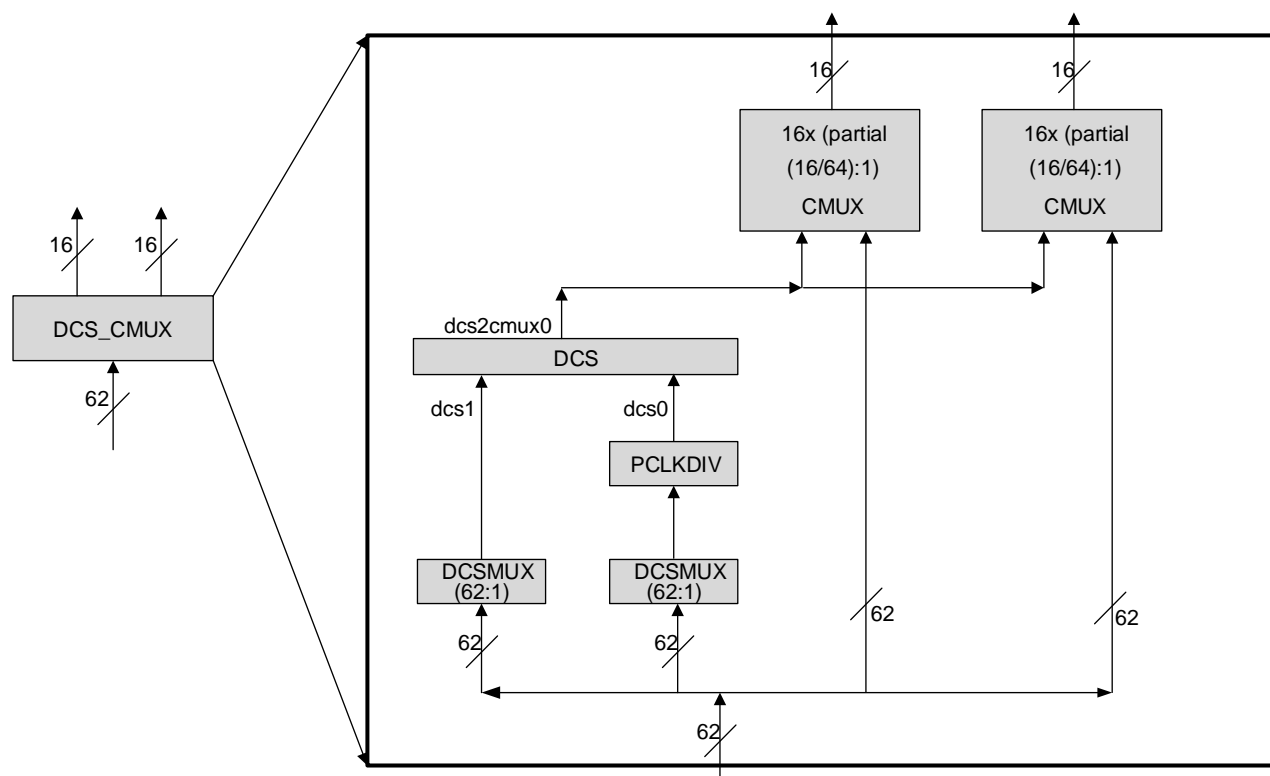

Figure 2.8. DCS_CMUX Diagram
The PCLKDIV supports $\div 2$, $\div 4$, $\div 8$, $\div 16$, $\div 32$, $\div 64$, $\div 128$, and $\div 1$ (bypass) operation. The PCLKDIV is fed from a DCSMUX within the DCS_CMUX block. The clock divider output drives one input of the DCS Dynamic Clock Select within the DSC_CMUX block. The Reset (RST) control signal is asynchronously and forces all outputs to low. The divider output starts at next cycle after the reset is synchronously released. The PCLKDIV is shown in Figure 2.8.
All clock sources are selected and combined for primary clock routing through the Dynamic Clock Selector Center Multiplexor logic (DCS_CMUX). There are one (1) DCS_CMUX blocks per device. Each DCS_CMUX block contains two (2) DCSCMUX blocks, one (1) PCLKDIV, one (1) DCS block, and two (2) CMUX blocks. See Figure 2.8 for a representative DCS_CMUX block diagram.